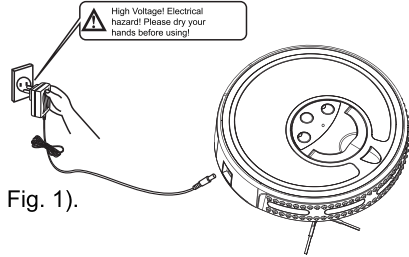

Fig.1
2. Method 1: Turn on the cleaner and connect adapter's output plug to the manual charging socket on cleaner (See Fig. 1). Plug AC adapter to wall outlet last.